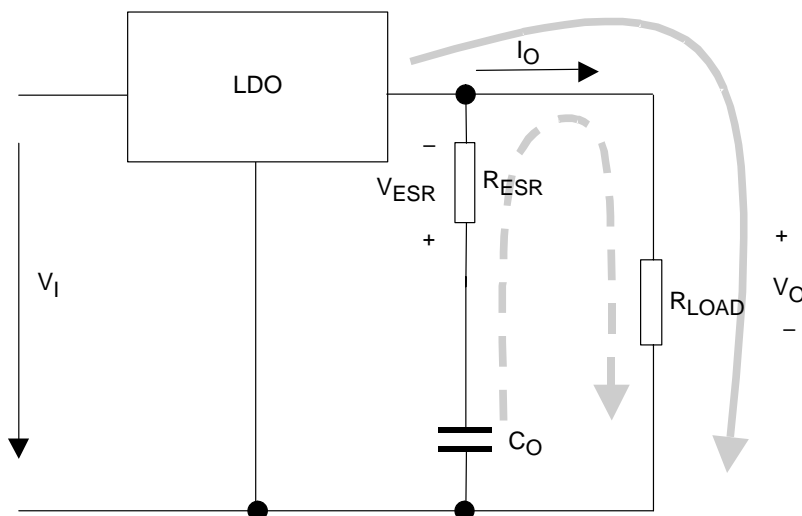

Figure 38. LDO Output Stage With Parasitic Resistances ESR
Figure 38 shows the output capacitor and its parasitic impedances in a typical LDO output stage.
- The LDO is not able to supply the sudden current need due to its response time. Therefore, capacitor C_O provides the current for the new load condition (dashed arrow). C_O now acts like a battery with an internal resistance, ESR. Depending on the current demand at the output, a voltage drop will occur at R_{ESR} . This voltage is shown as V_{ESR} in Figure 38.